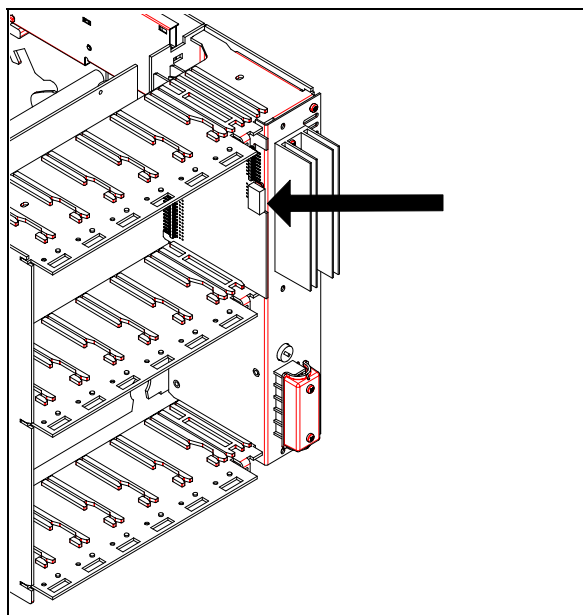

Figure 2-12
29. Connect the PCMCIA flat cable to the CPU board (see Figure 2-12). Ensure the connectors are located correctly.